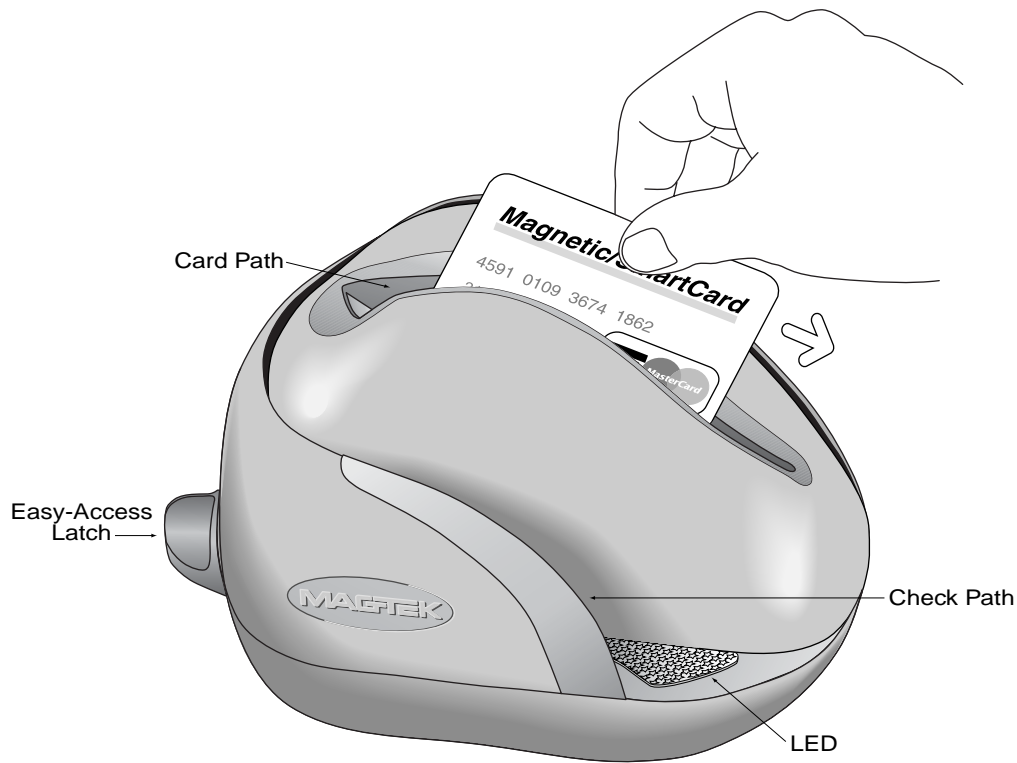

Figure 2-1. MICRImage with MSR
The installation for the MICRImage Check Reader is described below. Figure 2-1 shows the unit with the MSR.
6. The LED indicator on the MICRImage Reader should turn on to a steady green. The LED indicator is located on the slot where the check is first inserted for reading (see Figure 2-1).